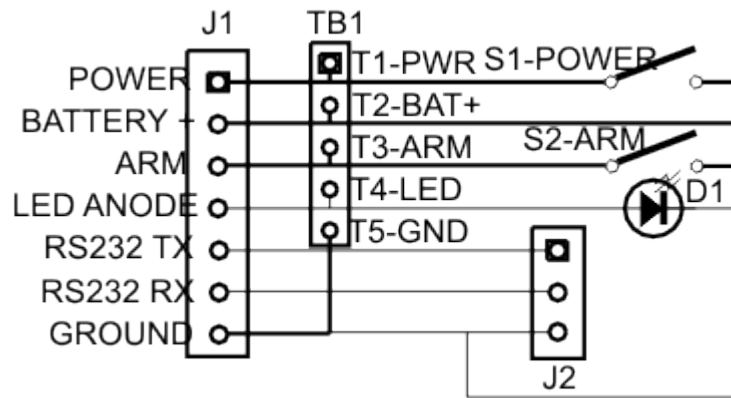

FIGURE 2. *AltAcc* 2A Power Panel
- 1.2 **ALTERNATE INSTALLATION.** If desired, the **AltAcc** can be wired to operate remotely per FIGURE 2. Available from blacksky is an optional **AltAcc 2A Power Panel** with Power, ARM, LED and Serial data connector, and comes with an 18-inch cable.